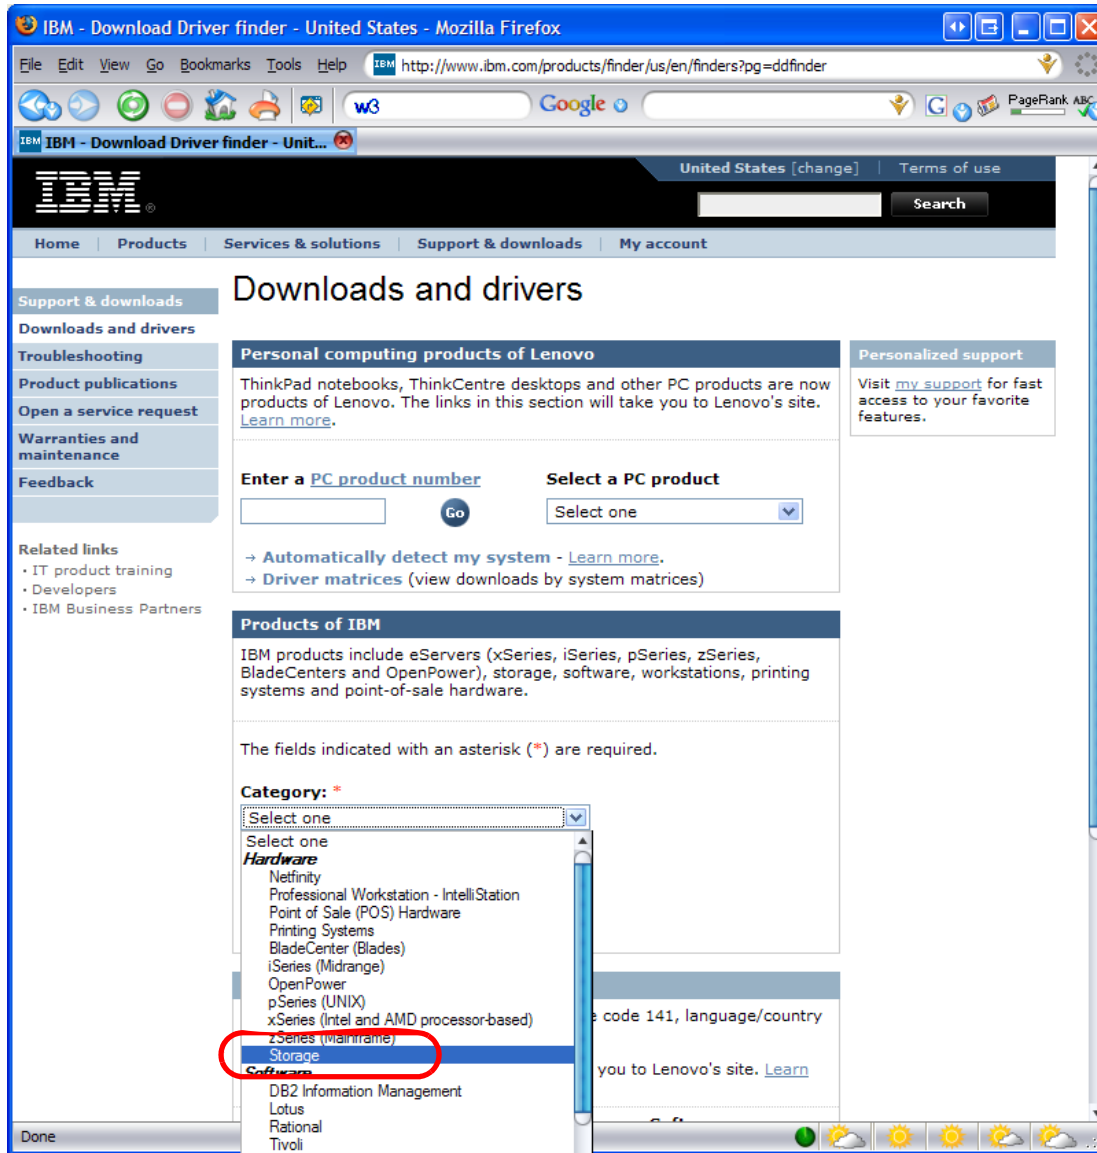

Figure C-2 Select a category
3. The Downloads and drivers page opens. Select the required product from the **Category** drop down box. The example shown in Figure C-2 on page 626 uses Storage to outline the usage of this page.